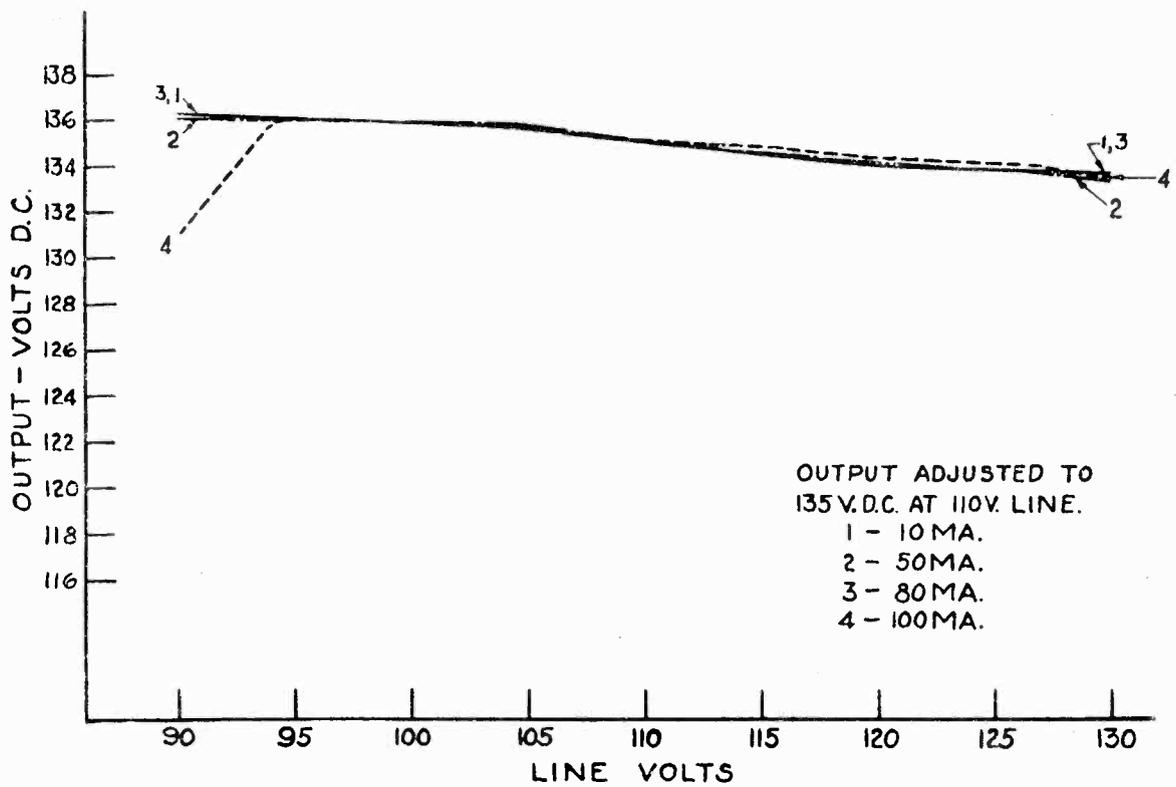
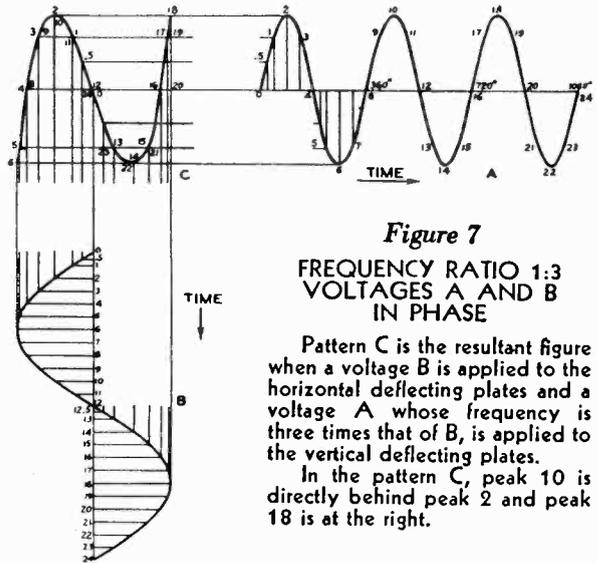
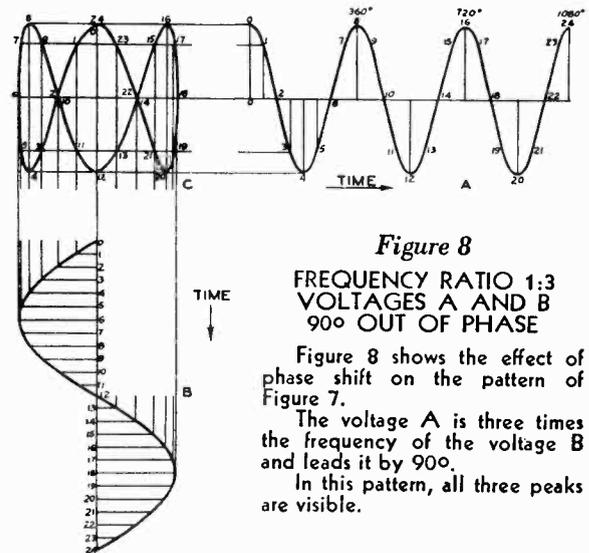

Figure 11—Voltage Regulation vs. Line Volts
Figure 7
Figure 8
As the ratio of the frequencies increases, the pattern becomes more complex. In Figure 7, A and B,
Figure 8 shows the effect of phase shift on the pattern of Figure 7.
are the voltages applied to the deflecting plates. In this case, the frequency of A is three times that of B. The resultant figure (C) shows a 1:3 pattern in which both voltages start in phase. Figure 8 is the same as Figure 7 except that voltage A is started 90 degrees out of phase with respect to voltage B. Figure 9C shows the resultant pattern obtained where B is a saw-tooth wave and A a sine wave. This is of interest because this type of wave form results when a linear timing axis is used. Figures 11, 12, and 13 show patterns of increasing complexity, Figure 13 being an 8:6 pattern.
Figures 14, 15, and 16 illustrate patterns as they generally appear on the fluorescent screen. Figures 11 to 13, and 17 to 23 are shown as pictures whose appearance suggests that the pattern has been developed on a plane. They have been shown in this fashion to facilitate study.
An optional method for determination of the frequency ratio is that of comparing the number of peaks on a given figure with the horizontal lines of intersections on the figure instead of with the number of loops at the end of the figure. A study of some of the patterns will make this clear. In Figure 20, there is a single line of intersections along the axes of the figures. It can easily be seen that this is a two-line figure by comparing it with the single line Figures 17 and 23. Figures 16, 19, and 21 having two horizontal lines of intersections, each spaced approximately one-third from the top and bottom, are three-line patterns. In the same manner, the four-line patterns of Figures 11, 18, and 22 are distinguished by three lines of intersection, the five-line pattern of Figure 12 by four lines of intersection, and the six-line pattern of Figure 13 by five lines of intersection with characteristic positions for these lines in each case. Thus, the frequency ratio is also equal to the number of peaks on circumference divided by the term, one + number of horizontal lines of intersection.